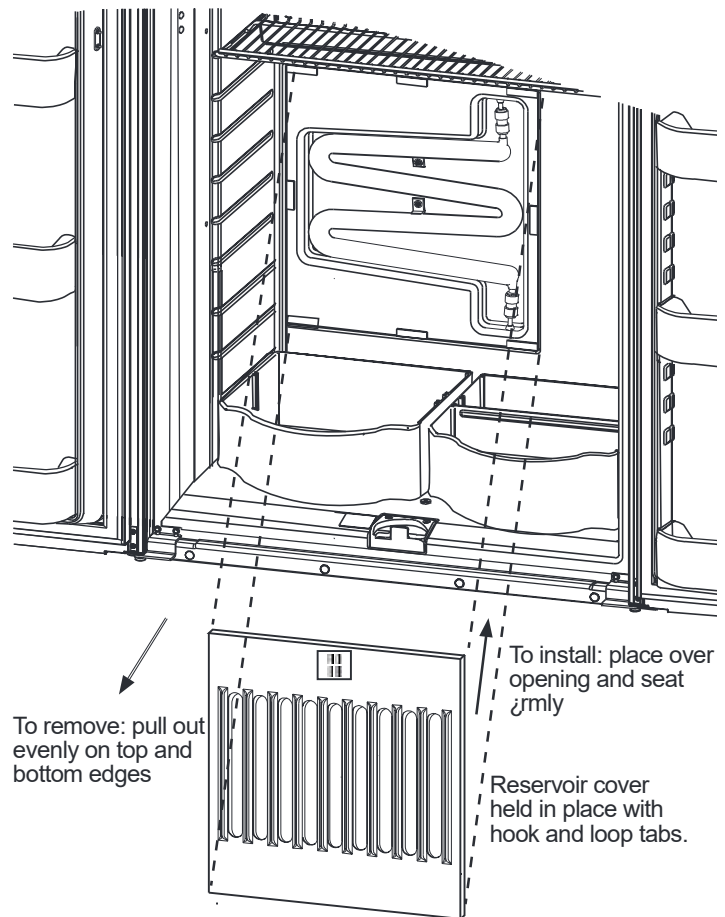

Figure 11-8. —Cover, reservoir compartment.
5. Remove the reservoir compartment cover. See Figure 11-8, .